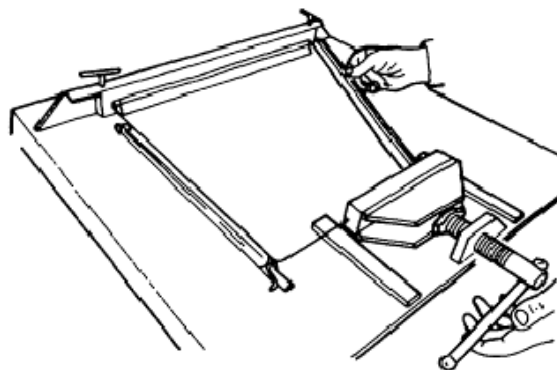

Figure 189 Slide Rail Installation
- r. Apply a soapy solution to the rubber and press in the glass fully (Figure 189).